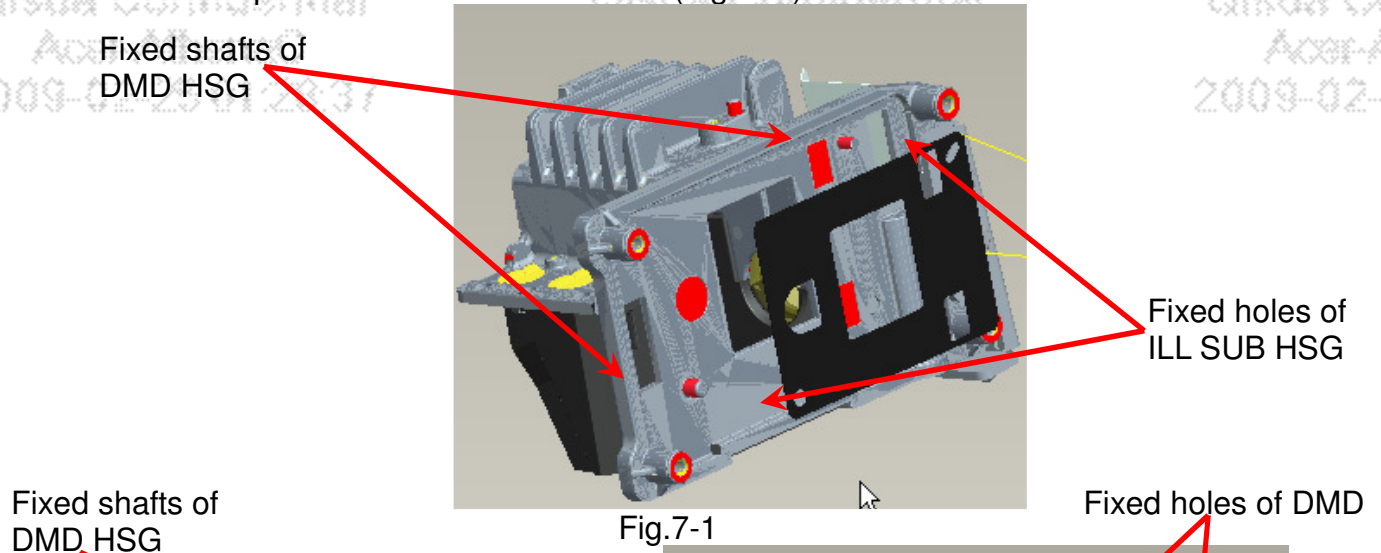

Fig.7-1
7.1 Assemble "Baffle DMD" to "HSG DMD" (Fig.7-1).